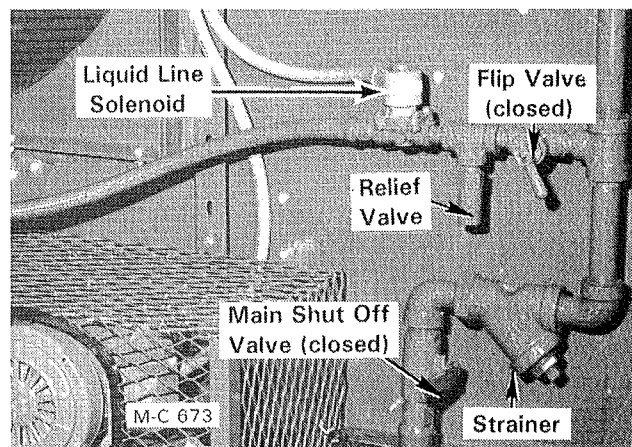

Figure 15
2. **LP Gas** - Close the liquid line flip valve for each burner(s) (handle down). See Figure 15.
- LP Gas** - Open the supply valve at the tank and lift up on the dryer liquid line Flip Valve(s) located after the strainer. See Figure 15. The flip valve is open when the handle is 90° to the piping.